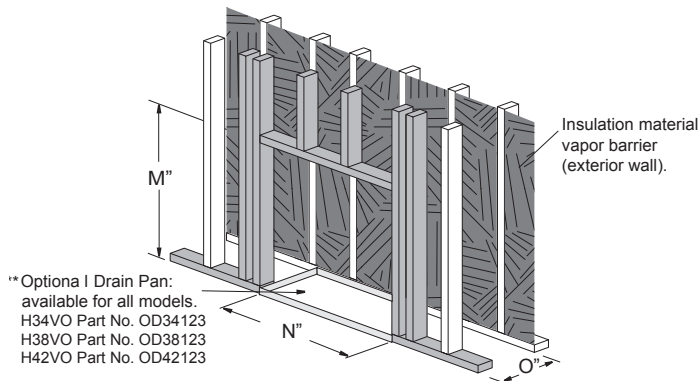

Figure 2a. Framing dimensions.
** The H-Series VO models have an **Optional** Stainless Steel Drain Pan available. Note, If the Drain Pan is ordered with the fireplace it must be installed at the time of construction. The Pan cannot be added at a later date. See **Figure 2a** above.
If the **Optional** drain pan is not used during construction; (as shown in **Figure 2a** above) ensure any water build-up can escape to the exterior of the finished enclosure.